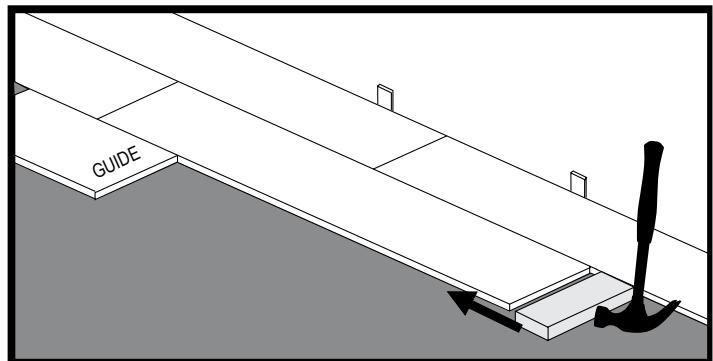

Figure 5
- Tap the end of plank using a hammer and tapping block to secure ends of planks together. (See figure 5.)